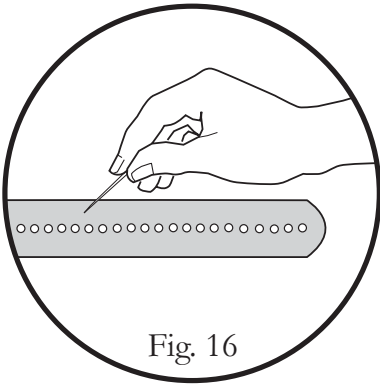

Fig. 16
- Use a wire brush or toothpick to clean the ports all around the sides of the burner (see Fig. 16). It is normal for some surface rust to appear on the burner. Severe rusting can enlarge the gas ports, however, which could cause changes in the Grill's performance.
Use a wire brush or toothpick to clean all ports on the sides of the burner (see Fig. 16).